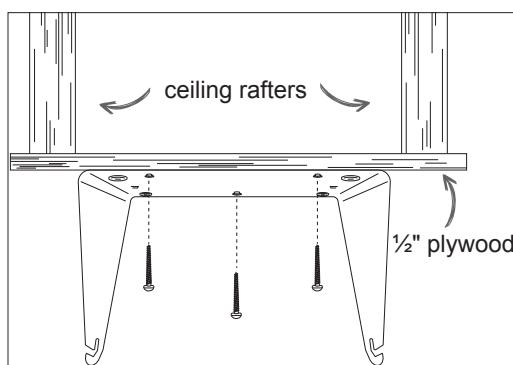

Figure 6
4. Insert one of the 2 inch screws provided into the top, center keyhole position, leaving enough of the screw sticking out to attach the stand later (See Figure 6).